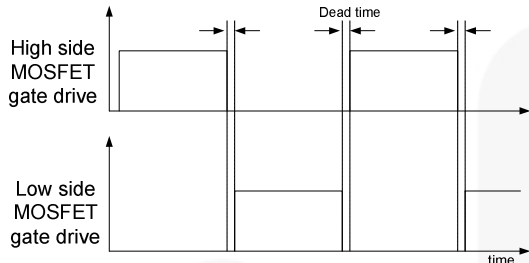

Figure 15. MOSFETs Gate Drive Signal
1. Basic Operation: FAN7621S is designed to drive high-side and low-side MOSFETs complementarily with 50% duty cycle. A fixed dead time of 350ns is introduced between consecutive transitions, as shown in Figure 15.